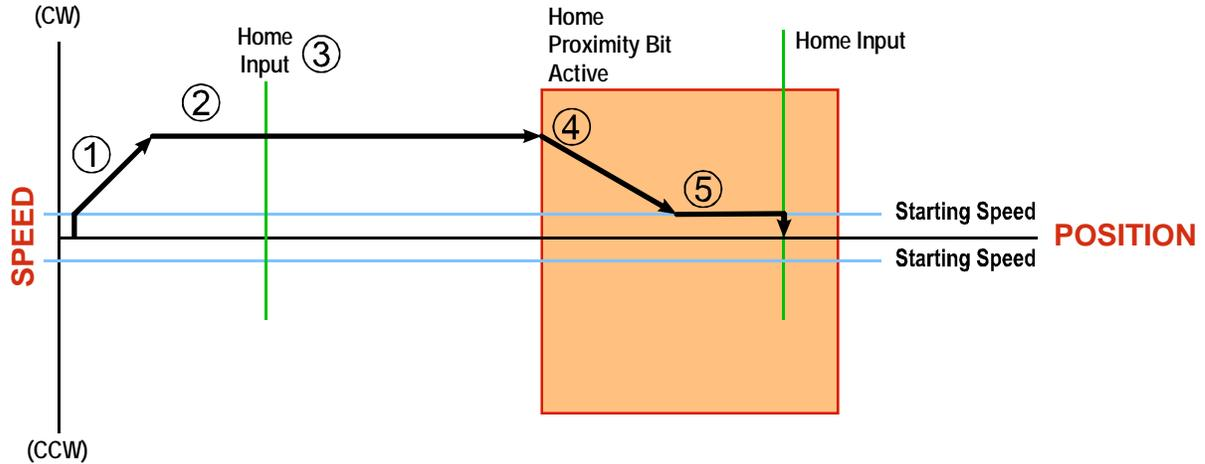

Figure R4.2 Homing with Proximity
Figure R4.2 below shows the move profile generated by a CW Find Home command when you use the Home Input with Backplane\_Proximity\_Bit.
**NOTE**  Figure R4.2 shows the Backplane\_Proximity\_Bit staying active until the SMD34K reaches its home position. This is valid, but does not have to occur. As stated in step 4, the SMD34K starts to hunt for the home position as soon as the Backplane\_Proximity\_Bit makes a 0→1 transition